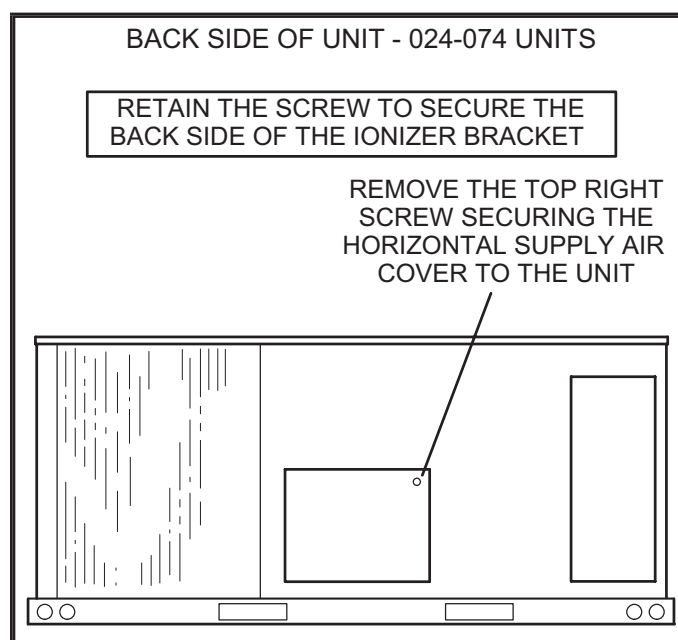

FIGURE 1
- 1 - On the back side of the unit, remove one screw securing the horizontal supply air duct cover in place. See FIGURE 1. Retain the screw to secure the back side of the ionizer bracket.